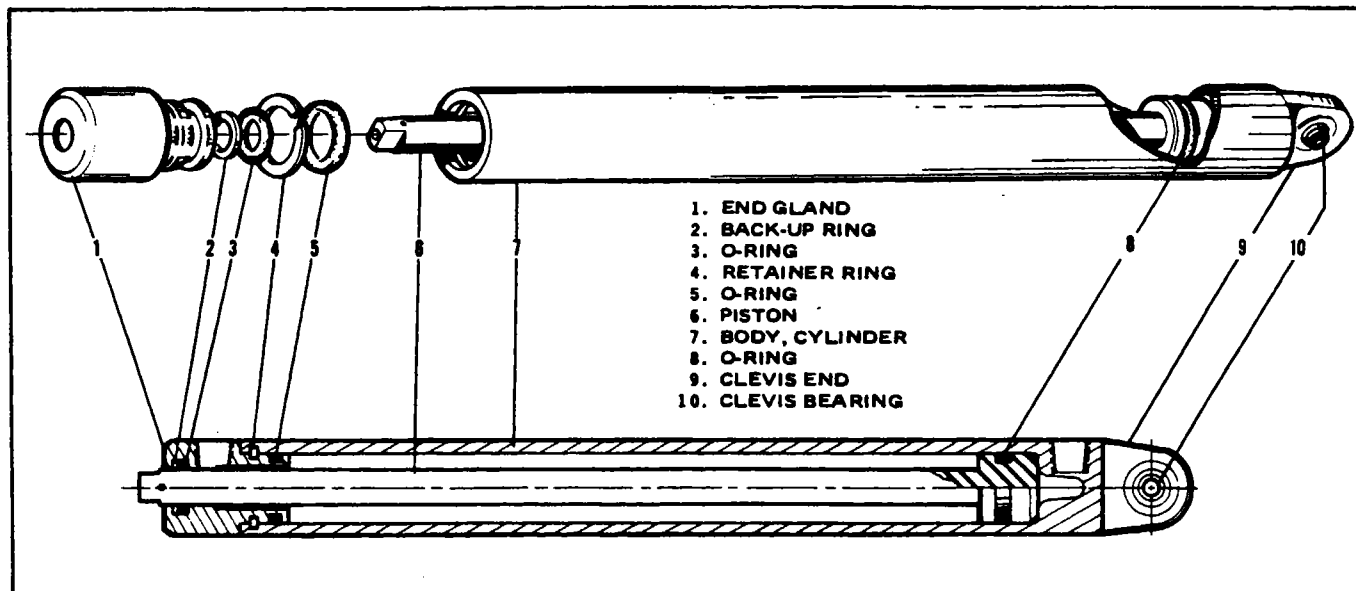

Figure 6-7. Gear Actuating Cylinder
6-18. DISASSEMBLY OF ACTUATING CYLINDER. (Refer to Figure 6-7.)
- d. Rotate end gland counterclockwise (with use of fitting) until end of retainer ring (4. Figure 6-7) shows in slot of cylinder body (7). Reverse rotation of gland (clockwise direction) allowing retainer ring to move out of slot. (It may be necessary to give the ring an assist in starting out of the slot. If so, insert a strong wire pick or other suitable tool in the slot to pry up the end of the retainer ring.)
- e. Remove piston (6) and end gland (1) from cylinder body.
6-20. ASSEMBLY OF GEAR ACTUATING CYLINDER. (Refer to Figure 6-7.)